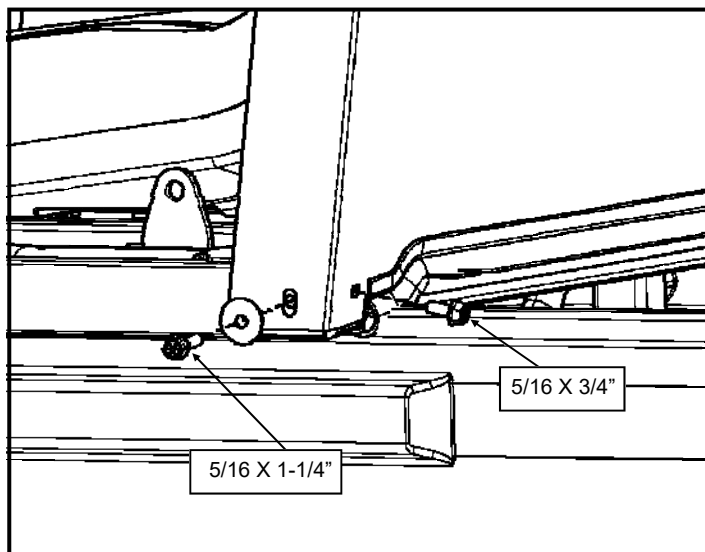

Figure 3.4: Floorboard panel to rear panel (left shown)
- (1) 5/16 Fender washer
- (2) 5/16-18 Flanged nut
Connect the rear floorboard panels to the rear panel with one (1) 5/16 x 1-1/4" bolt with fender washer outside, through the side of the rear panel and through the fender panel, install a nut inside. Attach the rear panel to the rear tab of the fender panel with one (1) 5/16 x 3/4" bolt outside and nut inside. Leave loose. (**Figure 3.4**).